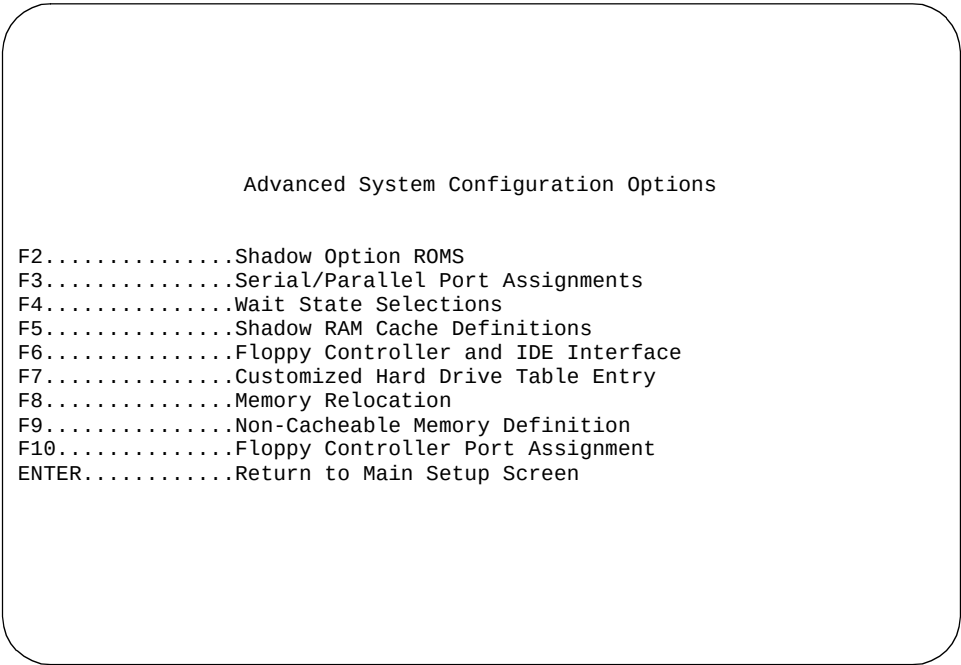

Figure 5-81. Advanced System Configuration Options Screen
The system displays the Advanced System Configuration Options screen (Figure 5-81).
- The system displays the Advanced System Configuration Options screen \(Figure 5-81\).
- The system displays the Advanced System Configuration Options screen (Figure 5-81).